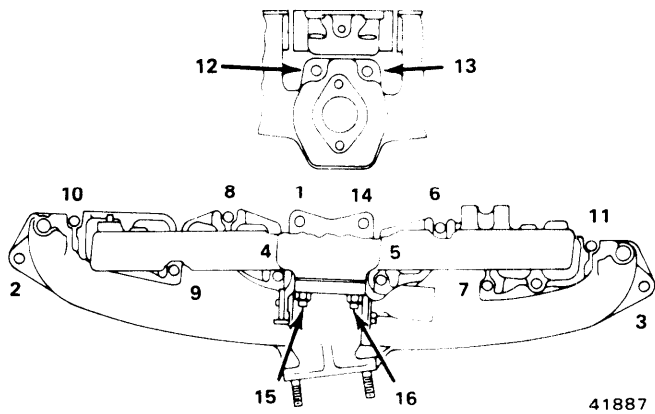

Fig. 1A-13 Intake Manifold Torque Sequence
(1) Position replacement intake manifold gasket on cylinder head and install manifold assembly. Tighten heat riser nuts to 5 foot-pounds torque. Tighten manifold attaching bolts and nuts in sequence (fig. 1A-13) to 23 foot-pounds torque.